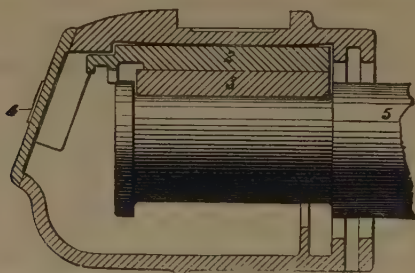

Fig. 383. Tender Journal-box.
A. About like car-axle boxes, the journal being in a cast-iron box open front and rear and having a cover. (Fig. 383.)